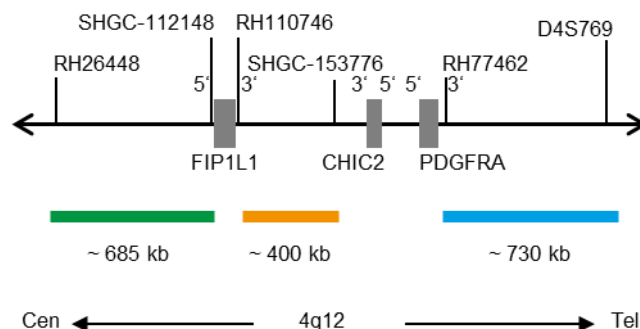

Fig. 1: SPEC PDGFRA/FIP1L1 probe map (not to scale)
- ZyGreen (excitation 503 nm/emission 528 nm) labeled polynucleotides (~10.0 ng/μl), which target sequences mapping in 4q12\* (chr4:53,552,536-54,238,252) proximal to the FIP1L1 gene region (see Fig. 1).
- ZyOrange (excitation 547 nm/emission 572 nm) labeled polynucleotides (~4.5 ng/μl), which target sequences mapping in 4q12\* (chr4:54,351,156-54,749,671) proximal to the PDGFRA gene region (see Fig. 1).
- ZyBlue (excitation 418 nm/emission 467 nm) labeled polynucleotides (~37.0 ng/μl), which target sequences mapping in 4q12\* (chr4:55,185,968-55,915,442) distal to the PDGFRA gene region (see Fig. 1).